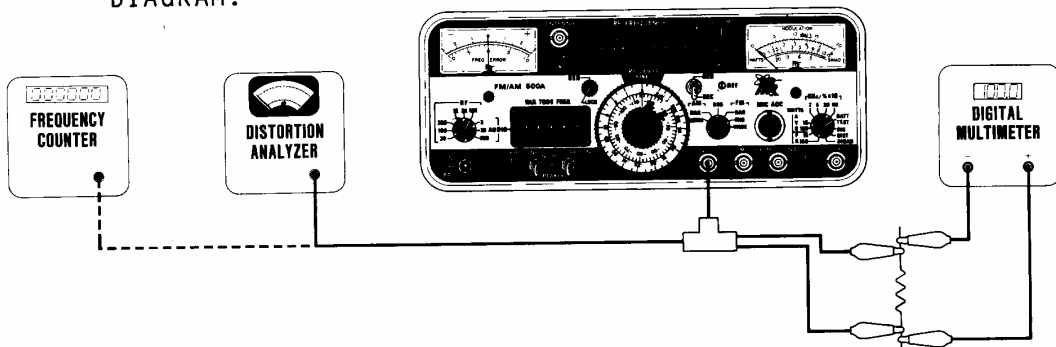

Figure 3-2 Variable Tone Generator Lab Test Set-Up
1. Connect FM/AM-500A to accessory test equipment as shown in Figure 3-2.
2. Set Power Switch (17) in "LINE" position. Verify LOCK Lamp illumination is steady.
4. Rotate VAR TONE Level Control (13) ccw until DMM indicates 2.50 VRMS.
6. Rotate VAR TONE FREQ Thumbwheels (18) to "0010.0". Verify distortion is less than 1.5%.
7. Rotate VAR TONE FREQ Thumbwheels (18) to "9999.9". Verify distortion is less than 1.5%.
9. Rotate VAR TONE FREQ Thumbwheels (18) in each of the settings below and verify Frequency Counter displays that frequency within the corresponding tolerances: